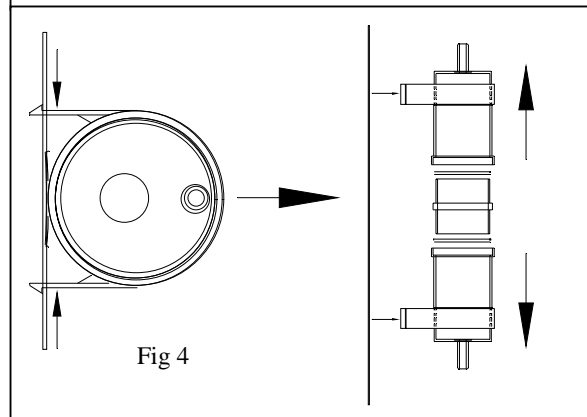

Fig 4
- 7 With the lower cylinder casing removed, and access to the float chamber improved remove the float chamber by unclipping it from the back panel and open the housing by removing the two plastic clips (use a screwdriver to lever these off) & pulling it apart (see fig 4).